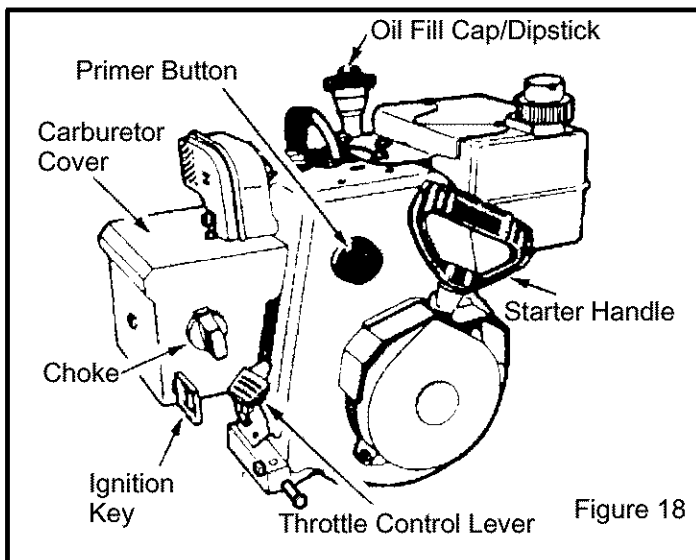
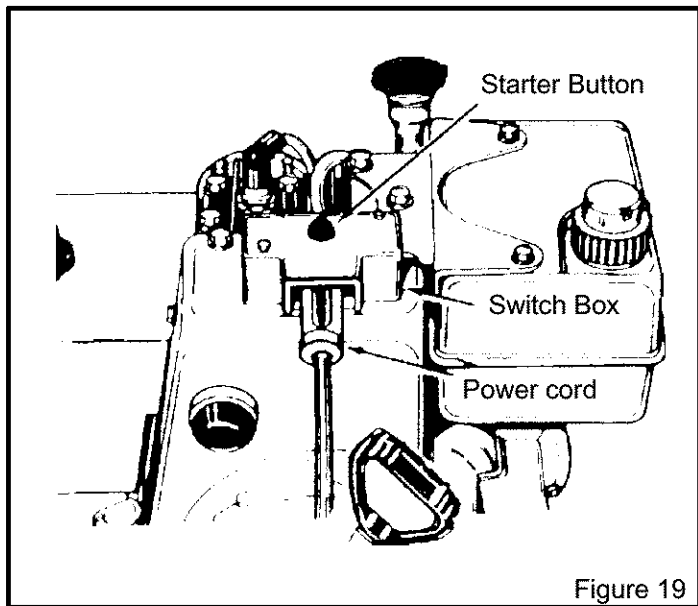

Figure 18
Figure 19
## COLD ENGINE START (ELECTRIC STARTER) (SEE FIGURE 18 AND FIGURE 19)
3. Insert key into ignition slot. Make sure it snaps into place (Figure 18). Do not turn key.
5. Connect POWER CORD to SWITCH BOX (Figure 19).
- a. Push STARTER BUTTON (Figure 19) to engage starter motor and crank engine.
5. Connect the POWER CORD to the SWITCH BOX (Figure 19).